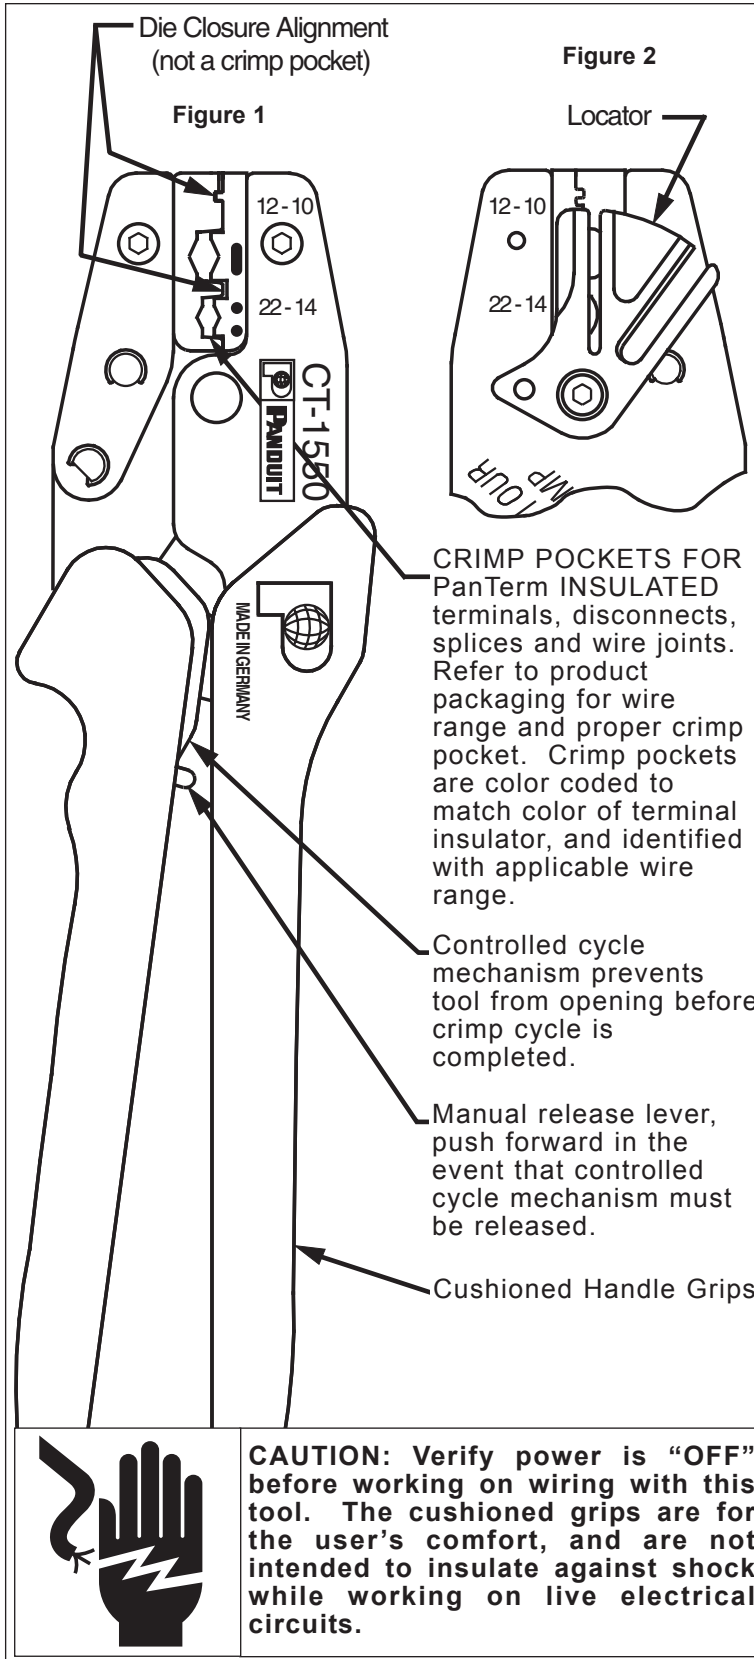

Figure 3
1. With the handles in the **closed** position, (See Figure 1), rotate the locator until the narrow slot is centered between the crimp pockets (See Figure 2). The locator will detent and "lock" in this position. Squeeze the handles to open the tool. With the back of the terminal tongue turned toward the color dots, insert the terminal in the proper crimp pocket (See Figure 1) so that the tongue slides into the locator slot (See Figure 3). Refer to product packaging for selection of proper crimp pocket.